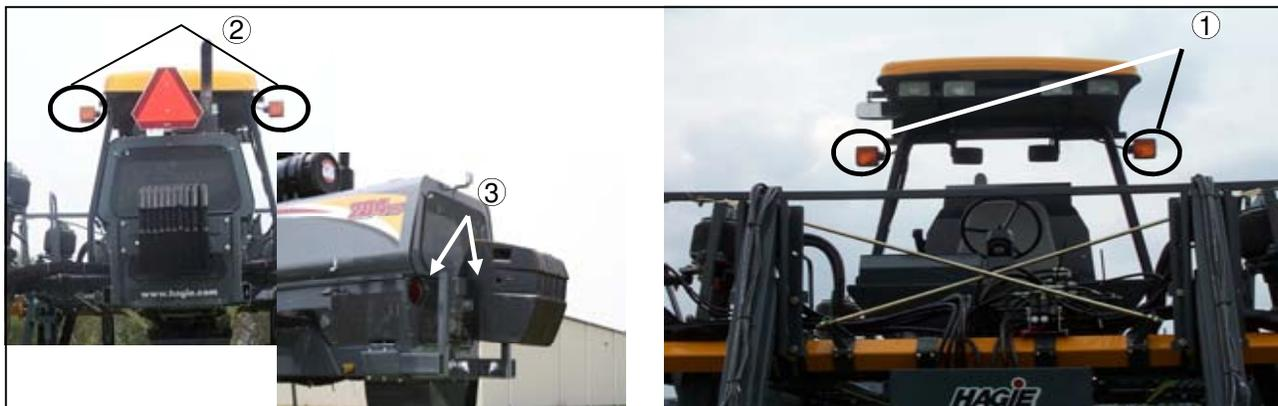

FIG 5.78
To activate the front (fig. 5.78, item 1 or 2) and rear turning signals (fig. 5.78, item 3) move the turn signal lever (fig. 5.76, item 1) right during a right-hand turn and left during a left-hand turn. Steering column-mounted turn signal indicators (fig. 5.76, item 2) will correspondingly flash when either side of the turn signals is activated. The turn signal lever is not a self-centering switch; you must return it to the “OFF” position by hand after completing your turn.
To activate the flashing hazard/warning lights (fig. 5.78, item 1 or 2) flip the “FLASHER” switch to the “ON” position (fig. 5.77). Activate the hazard/warning lights anytime traveling on a public road, day or night, unless prohibited by law.
Activating any of the work lights will also turn on the “RED” running lights on the rear of the machine (fig. 5.78, item 3).